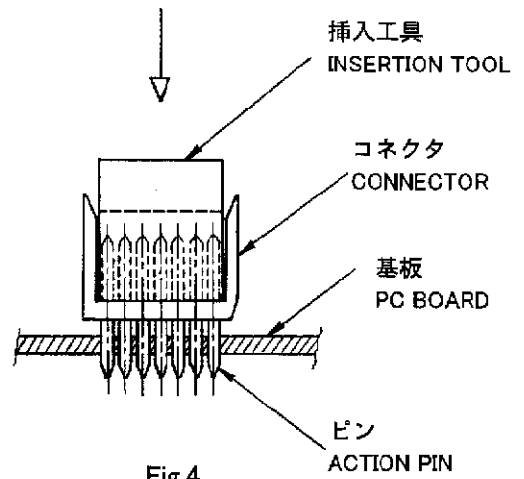

Fig.4
- (4) 挿入工具をコネクタの中に入れます。(Fig.4)
- (4) Set an Insertion Tool into the Connector. (Fig.4)